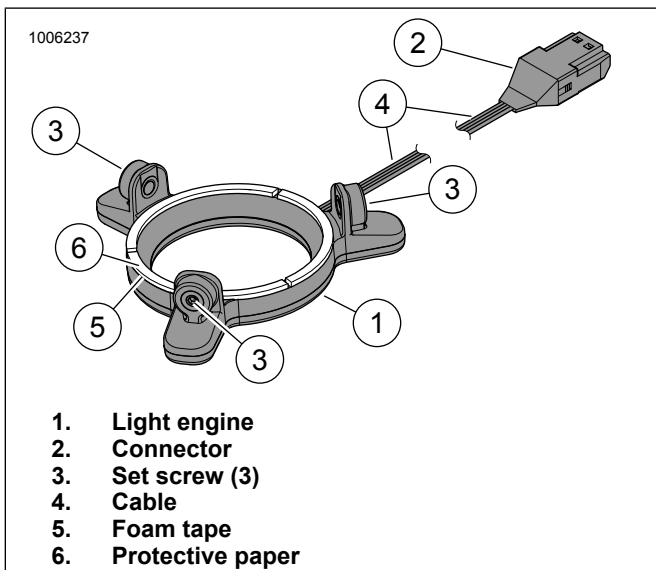

Figure 20. LED Light, Round Stage II Speaker
5. See Figure 20. Remove protective paper (6) from foam tape (5) on back of light engine (1).